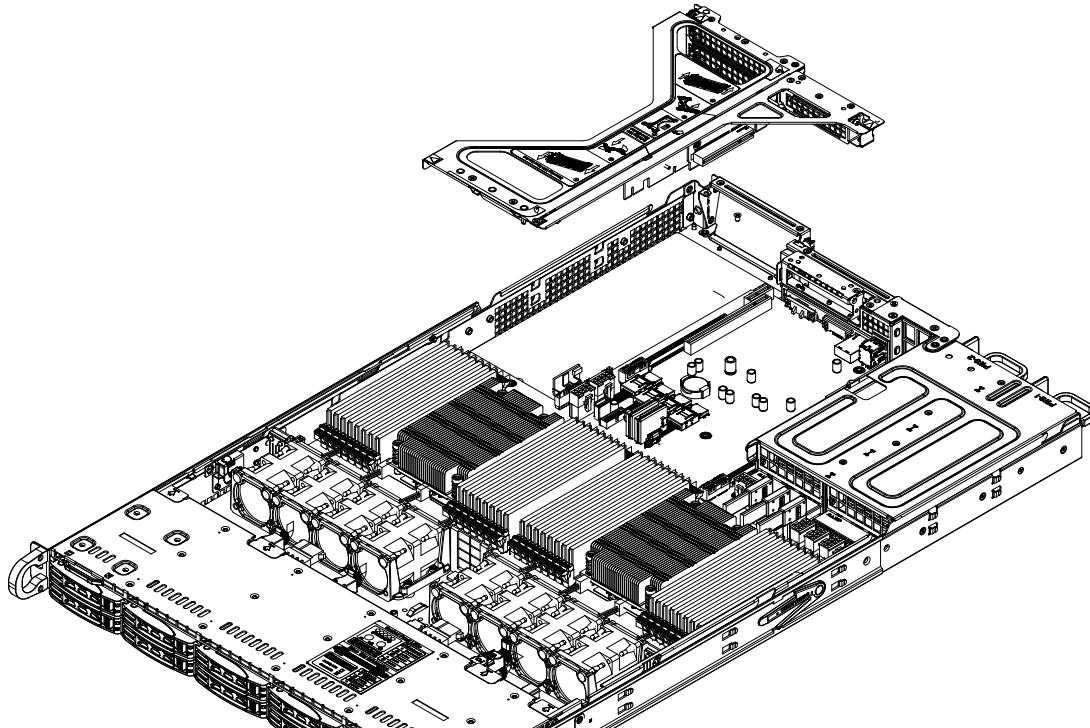

Figure 3-23. Riser Card Bracket and Expansion Slots
1. Remove the left riser card bracket as described in Figure 3-23.